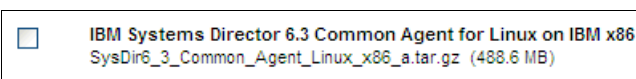

Figure 9-21 Linux Common Agent x86
2. Download KVM Common Agent from the following URL (Figure 9-21):